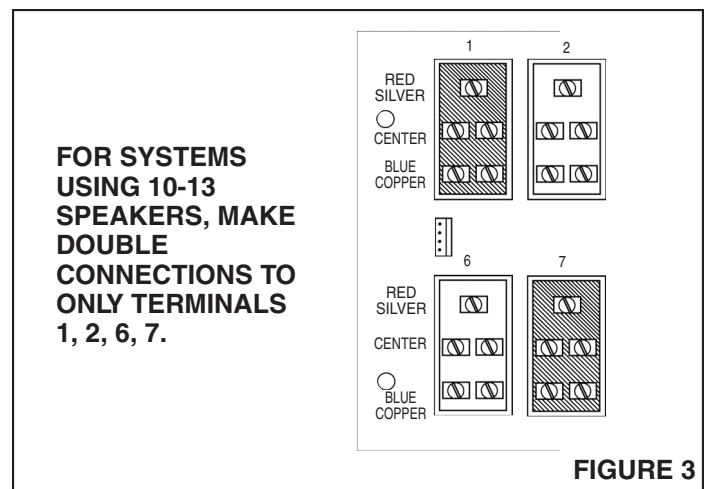

FIGURE 3
3. Refer to Figures 3, 4 & 5. Connect the three-conductor wire (IWA-3) from each speaker to a set of terminal screws. Connect speaker wiring as follows: